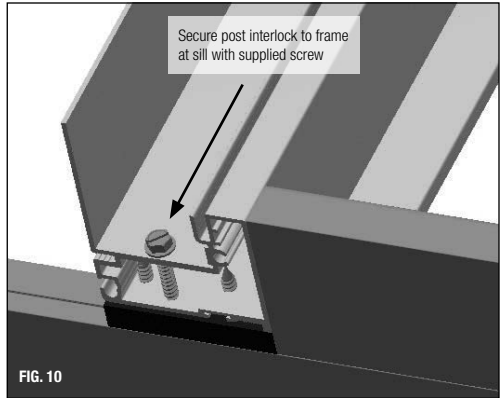

FIG. 10
- E) Align the pre-drilled hole on the post interlock (Fig. 9) to the holes on the exterior of the pocket side of the frame (the post interlock should line up flush with the frame nosing at the head). Secure the post interlock to the frame sill using the provided screw in the “Post Interlock” screw package. (Fig. 10) **Do not over-tighten screws. Over-tightening the screws will cause the post interlock to collapse at the ends.**